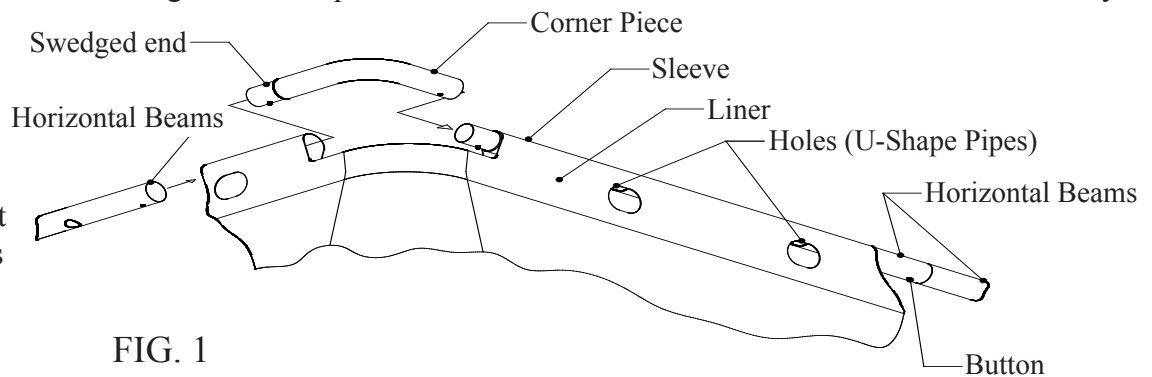

FIG. 1
2. Locate the four metal (Corner Pieces) of pipe Fig. 1, then place one at every corner of the pool. Now locate the (Horizontal Beams), insert a (O-Shaped Spring) see Fig. 2 in each smaller swedged end of these only to join the beams together in length, **Note:**
(Horizontal Beams) into the sleeve (**making certain you work in a clockwise direction around the pool with all swaged parts pointing clockwise**) see Fig. 1 and refer to the “View of All Frame Assembly Parts” shown on page 5.
5. Connect the (Horizontal Beams) together pushing the button in as you insert one beam into the other beams end. Look through the locking hole in the beam as you join them, slightly rotate the beams until the button aligns with the hole and pops up, locking that beams end into the other beams end. Repeat this procedure for the remaining (Horizontal Beams) making certain the holes in the beams align with the openings in the pool sleeve Fig. 1 these holes are used for the U-Shape Pipe (end) and (side) supports. Next install the corner pieces (**again working in a clockwise direction with swaged ends pointing clockwise**), slide them together and repeat this procedure for all corners, on the last corner it might be necessary to lift the final joining connection at an angle to allow the pipes to fit into each other slowly lowering the ends flat again then sliding them together until it fits in completely, this step may require two people. Now double check all (Horizontal Beam) and (Corner Piece) connections at this time.